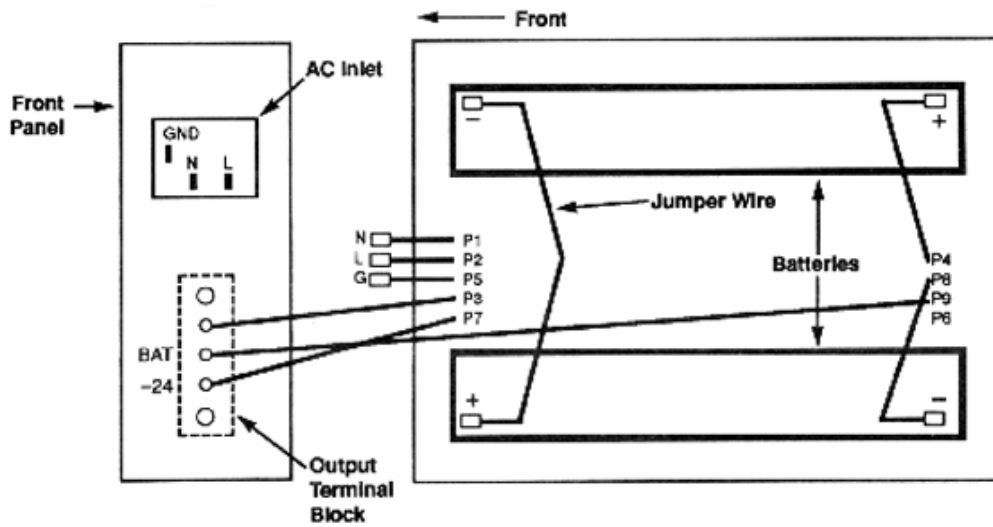

Figure 4: Battery Connections
6. Remove batteries and position replacement batteries as shown in Figure 4.
7. Reconnect battery terminals. Connect P4 spade terminal to nearest positive (+) battery terminal. Connect P8 to nearest negative (-) battery terminal. See Figure 4.
8. Connect jumper wire from negative (-) to positive (+) battery terminals at front of power supply. See Figure 4.